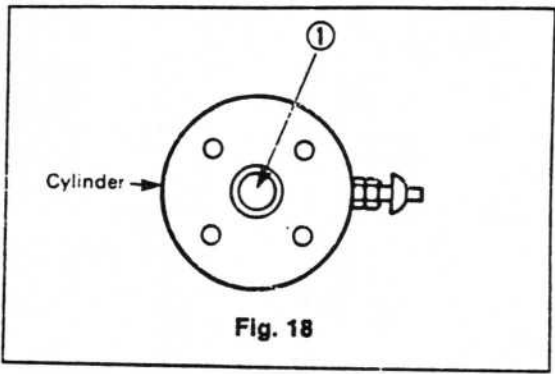

Fig. 18
4. Take out the centrally located cylinder pin (① in Fig. 18 - yellow color - press lightly to remove).